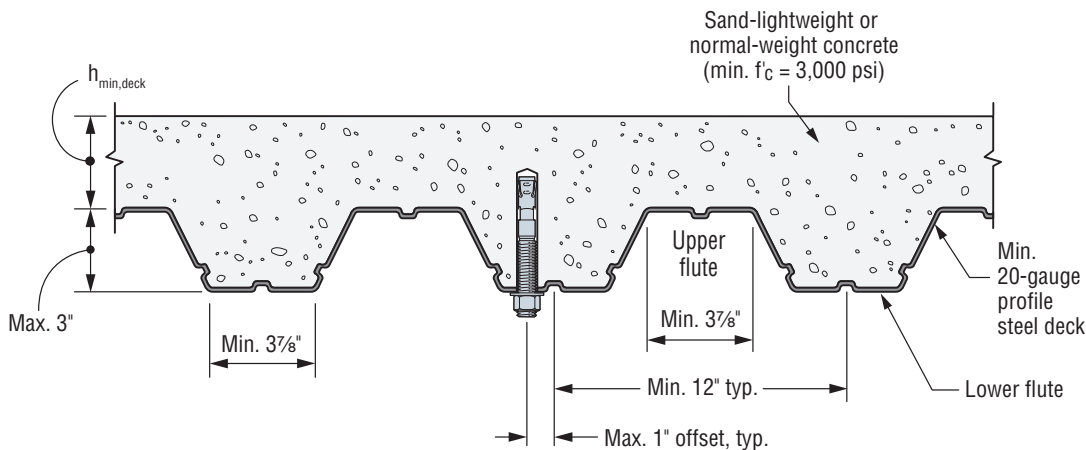

Figure 3
- The steel deck profile must comply with the configuration in Figure 3 below, and have a minimum base-steel thickness of 0.035 inch (20 gauge). Steel must comply with ASTM A 653/A 653M SS Grade 50 with minimum yield strength of 50,000 psi. Concrete compressive strength shall be 3,000 psi minimum.